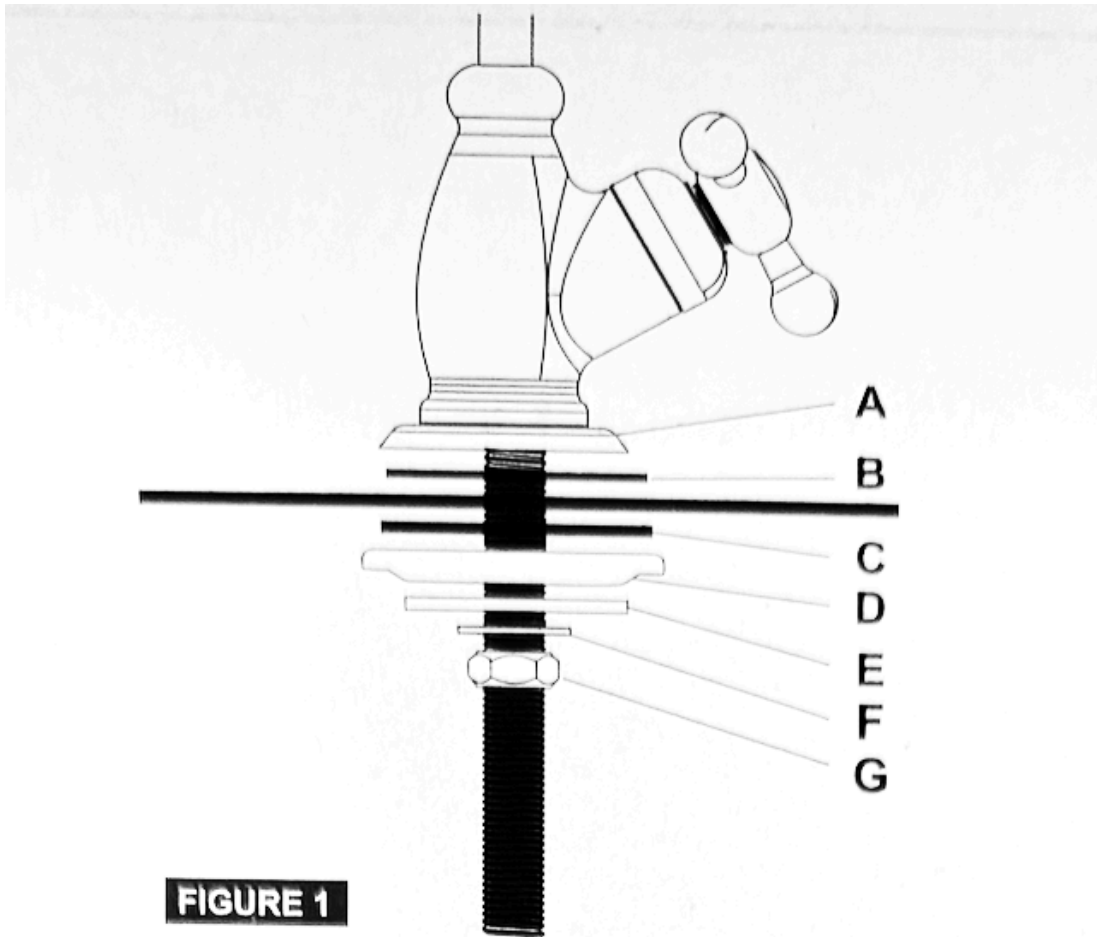

FIGURE 1
1. Place the faucet stem into the designated hole in the sink. (Refer to the parts sectional diagram in Figure 1 for guidance.)